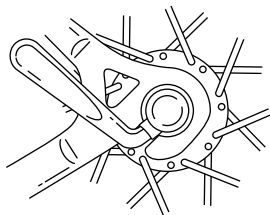

fig. 14 Wheel in Rear Dropouts
- (4) Put the chain on top of the smallest free wheel sprocket. Then, insert the wheel into the frame dropouts and pull it all the way in to the dropouts (fig. 14).
- (5) Tighten the adjusting nut until it is finger tight against the frame dropout; then rotate the lever toward the front of the bike until it is parallel to the frame's chainstay or seatstay and is curved toward the wheel (fig. 14).